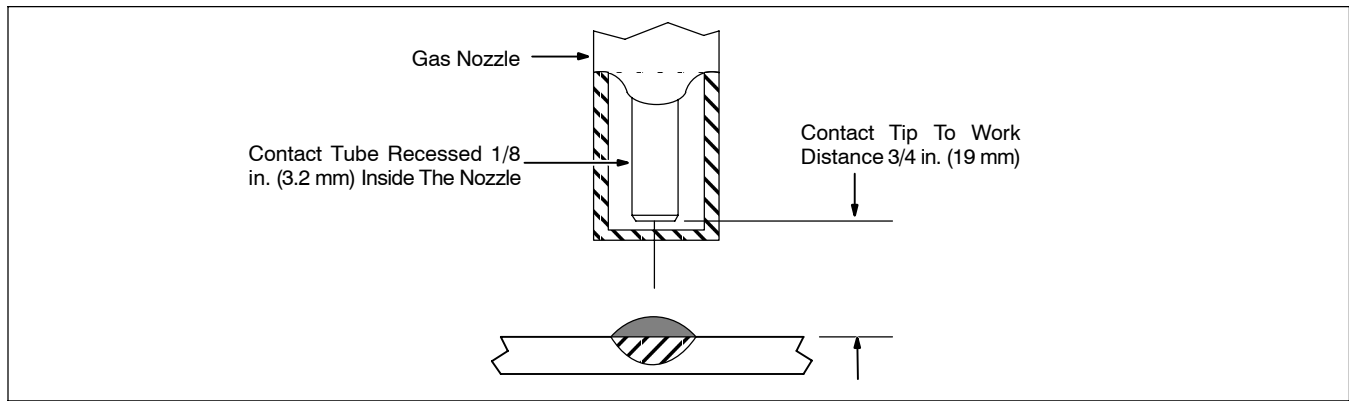

Figure 5-2. Contact Tube Position And Tip-To-Work Distance
- Maintain a 3/4 in. (19 mm) tip-to-work distance, and have the contact tip recessed approximately 1/8 in. inside the nozzle if possible. See Figure 5-2.